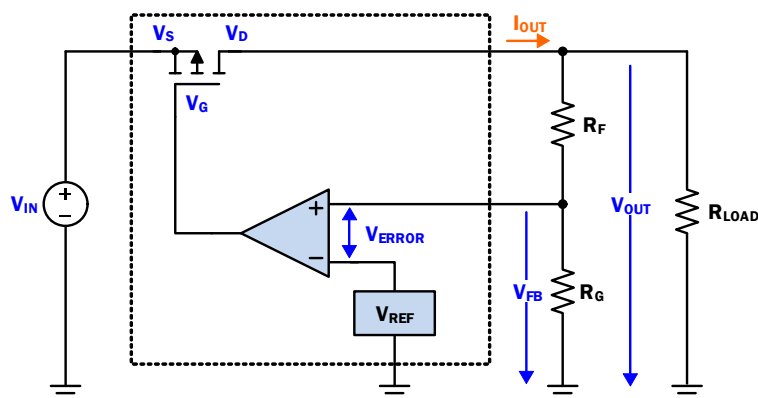

Figure 74. Simple PMOS LDO Regulator Block Diagram
Like the majority of LDOs with a PMOS pass transistor, the RAA214250 DC output voltage ( $V_{OUT}$ ) regulation can be modeled with a voltage reference ( $V_{REF}$ ), PMOS pass-transistor, error amplifier and feedback (FB) resistors as shown in Figure 74.